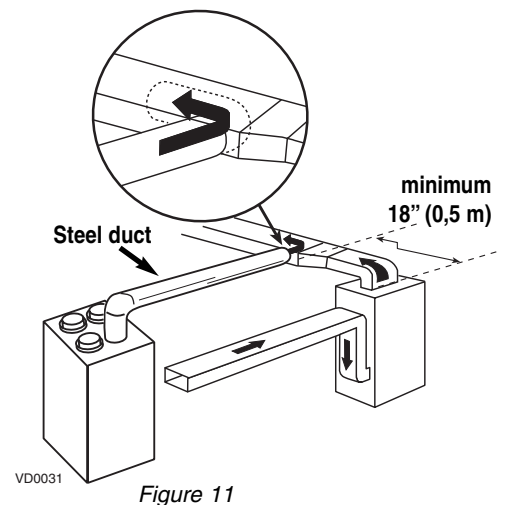

Figure 11
- Connect this opening to the fresh air distribution port of the HRV (use steel duct, see Figure 11).